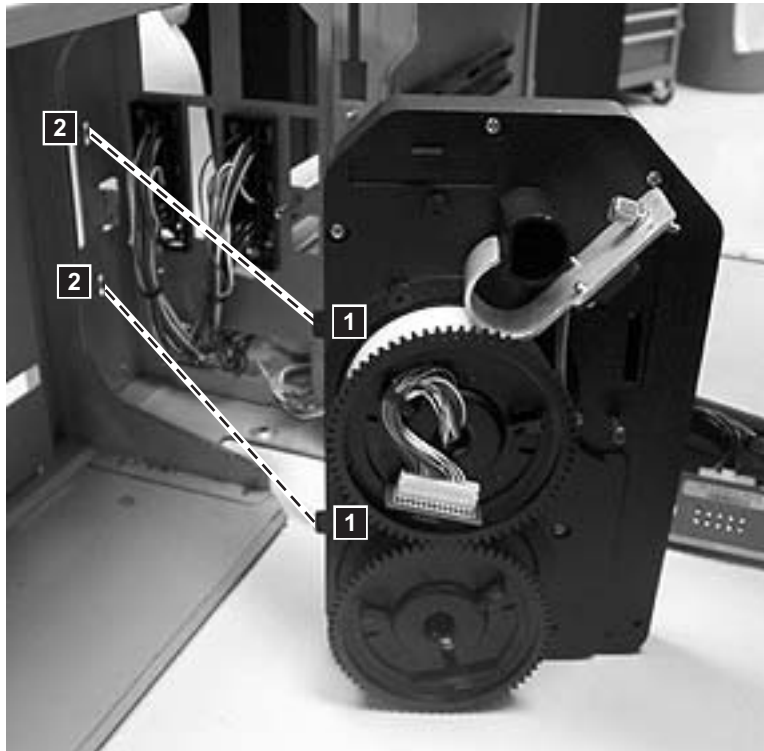

Figure 8-57. Cable Spool Assembly tabs
2. Carefully insert the plastic tabs (**1** in Figure 8-57 on page 8-61) on the Cable Spool Assembly into the slots (**2** in Figure 8-57 on page 8-61) in the enclosure sidewall.